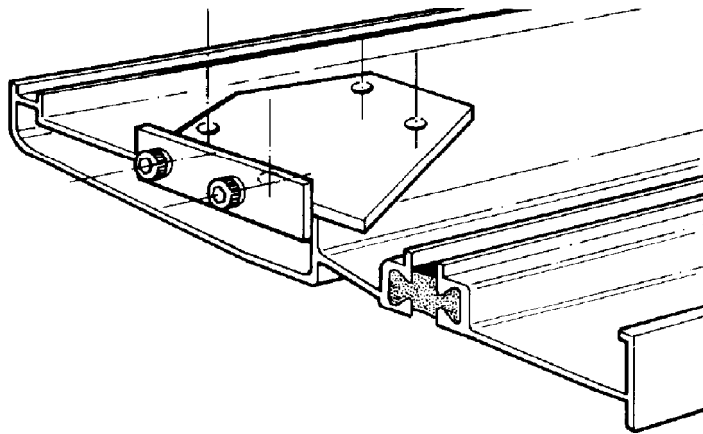

Figure 2.11 - BAY WINDOW CILL BRACE
8.5 Component Preparation (Fig 2.11)
Select the appropriate cill brace drill jig (C3157/8/9 dependent on the internal angle shown on the survey sheet). Butt the jig against the appropriate angled end and drill the four holes to accept the correct cill brace as shown in Fig 2.11. Prepare each cill in turn,